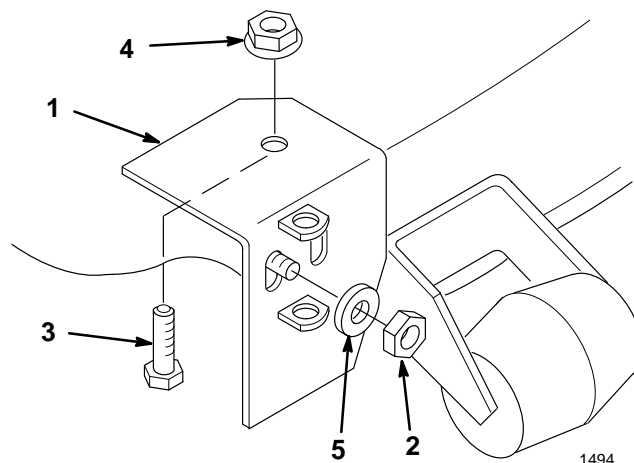

Figure 37
1. Remove the pivot support from the mower (Fig. 37).